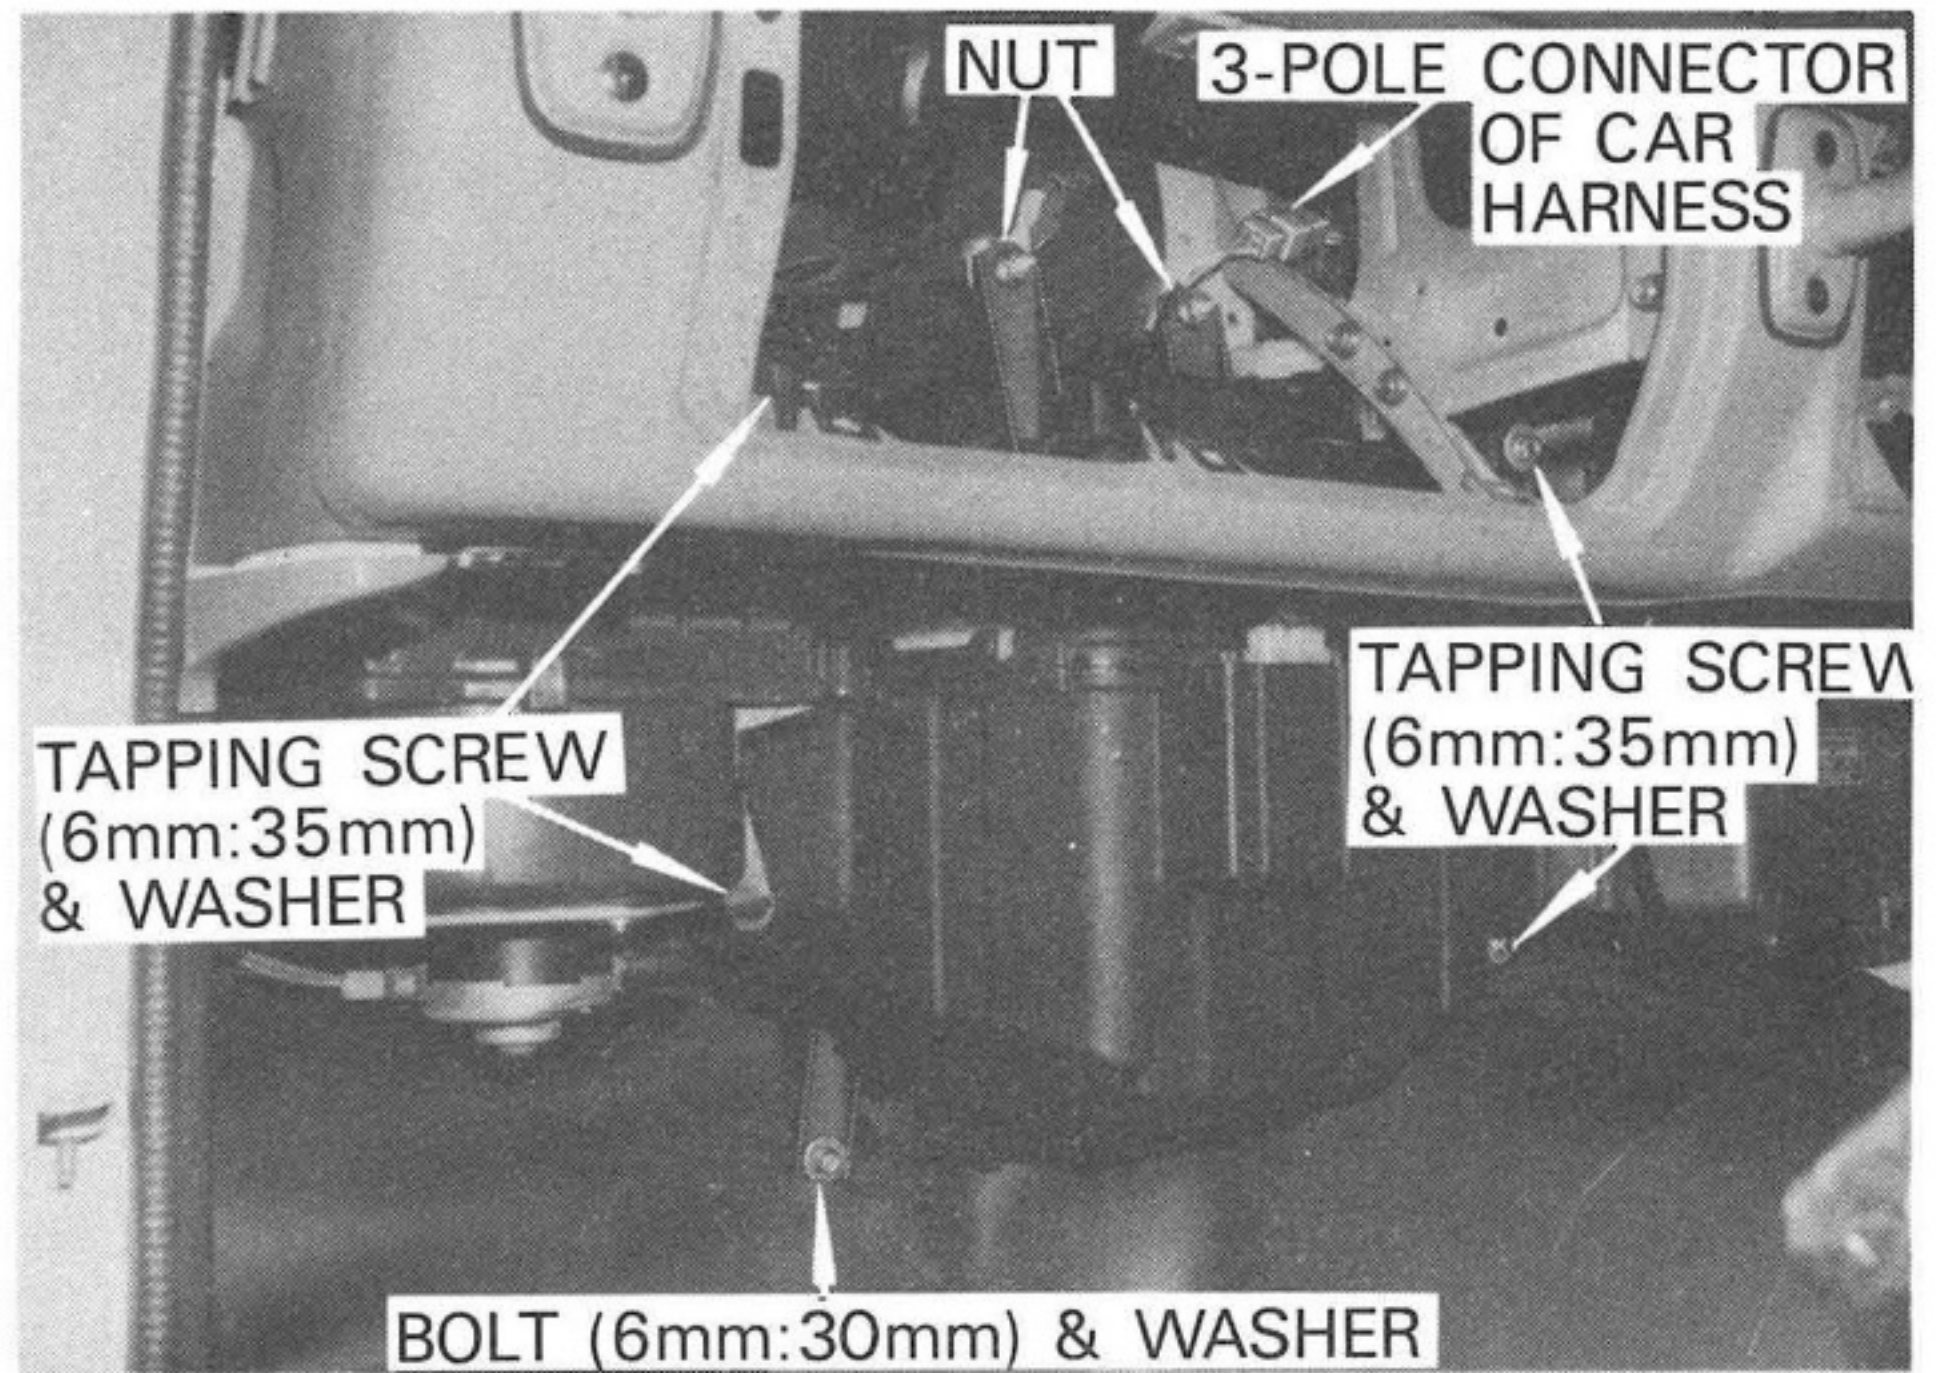

Fig. 1-7
D) Install the cooling unit using five bolts and two nuts. See Fig. 1-7.